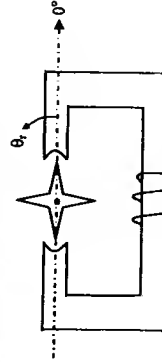

Fig. 2
- 20 2. Fig. 2 depicts a simple, single-phase, 4-pole reluctance motor. A current of 1 A at 60 Hz is passed through its stator winding. Assuming a sinusoidal variation of inductance of this winding in terms of θ , between the maximum value of 0.4 H and a minimum value of 0.1 H: